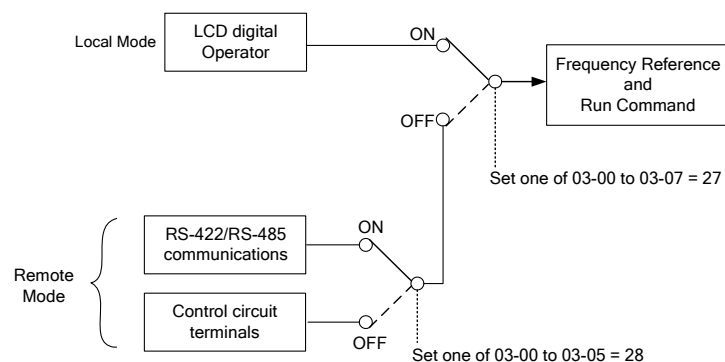

Figure 4.3.23 Remote mode operation selection
(30) Local/Remote selection (03-0X=28)
- When one of 03-02~03-05=28 (Remote mode selection) · inverter can switch between external terminal source (S1~S6) or communication (RS-485) source. Please refer the figure 4.3.23 °